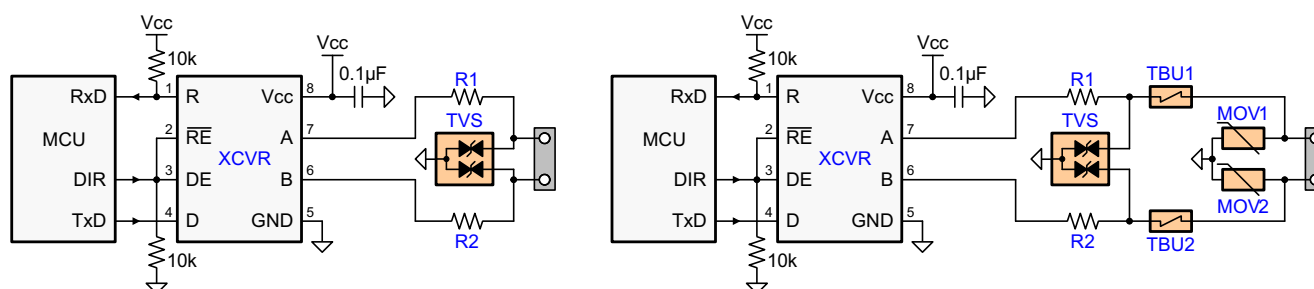

Figure 22. Transient Protections Against ESD, EFT, and Surge Transients
The implementation of IEC-ESD protection on-chip increases the robustness of equipment significantly, which most likely experience discharge events due to human contact with connectors and cables. Designers may also want to implement protection against much longer duration transients, typically referred to as surge transients. Therefore, Figure 22 suggests two circuit designs that provide protection against light and heavy surge transients, in addition to ESD and EFT transients. Table 6 presents the associated bill of material.
While the transient protection is similar to the one in Figure 22 (left circuit), an additional high-voltage capacitor is used to divert transient energy from the floating RS-485 common further towards Protective Earth (PE) ground. This is necessary as noise transients on the bus are usually referred to Earth potential.